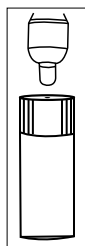

Figure 3B
3. Place the probe tip close to the small hole (3 - 4 mm) on the leak test vial for no more than 3 seconds, as shown in Figure 3B, until an audible alarm is generated. This will be an indication that the unit is operating properly.